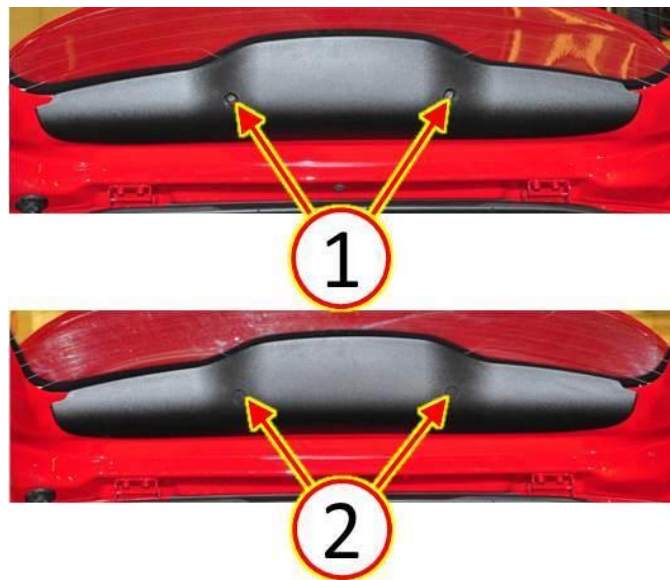

Fig. 7 Install Liftgate Upper Trim Panel
9. Install the upper trim panel fasteners (1) and tighten securely (Fig. 7).
10. Install the plastic fastener covers (2) to the upper trim panel (Fig. 7).